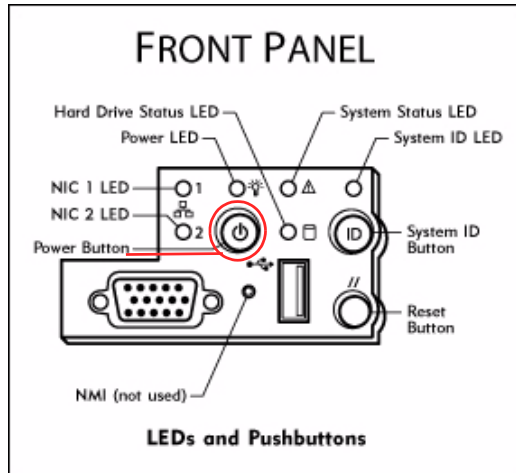

FIGURE 3-12 Power Button and Front Panel Detail
7. Press the Power button (FIGURE 3-12) on the front panel (behind the faceplate).